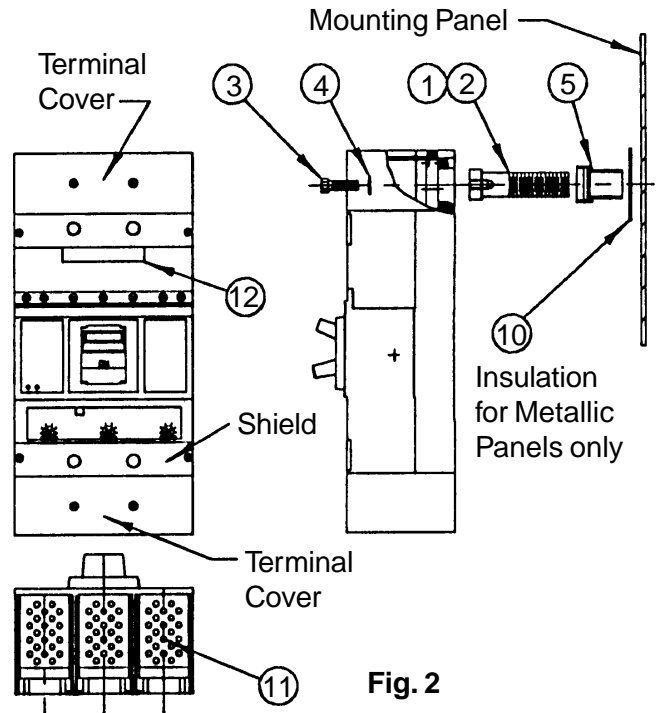

Fig. 2
BREAKER PREPARATION (Fig. 2)
BREAKER PREPARATION CONTINUED (Fig. 2)
9. Insert the end shields (11) into the slots provided at the line & load ends of the terminal covers as shown in Fig. 2, one for each stud position. Replace terminal covers and shields.
10. Affix the label "BREAKER IS EQUIPPED WITH REAR CONNECTING STUDS" (12) Pc. No. 60229 to breaker cover as shown in Fig. 2.